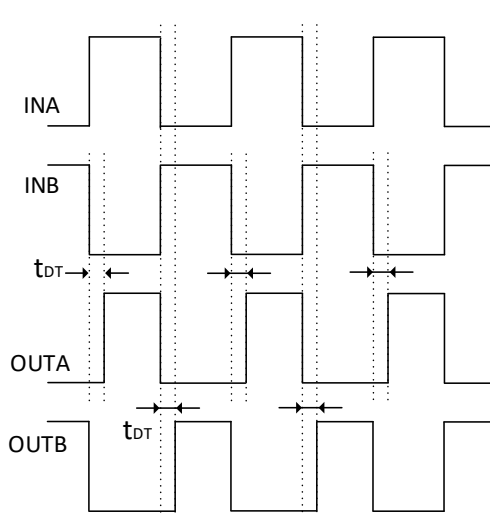

Figure 15. Typical Dead Time
The dead time control logic can only be active when the OUTA/OUTB transits from low to high, as is illustrated in Figure 15 and Figure 16. Figure 15 shows the typical control logic. The dead time of OUTA starts from the falling edge of INB and OUTB starts from INA. If the dead time of INA and INB is larger than the set value, the output signal will synchronize with the input signal perfectly, just as ② in Figure 16 shows. In the abnormal condition where INA and INB are overlapped as ① in Figure 16 shows, AP21550 will simultaneously pull OUTA and OUTB down at once to eliminate the shoot through risk and thus protect the whole system.